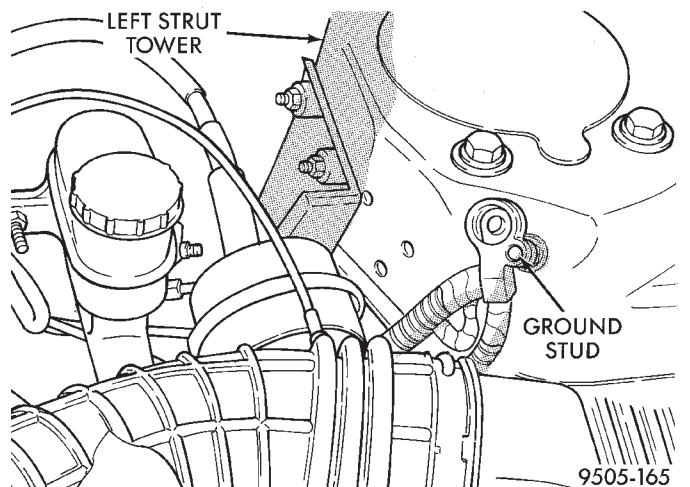

Fig. 89 Correctly Isolated Remote Ground Cable
- (2) Correctly isolate remote ground cable when servicing vehicle by installing the ground cable insulator on the strut tower ground stud as shown (Fig. 89). **This will prevent accidental grounding of the remote ground cable.**